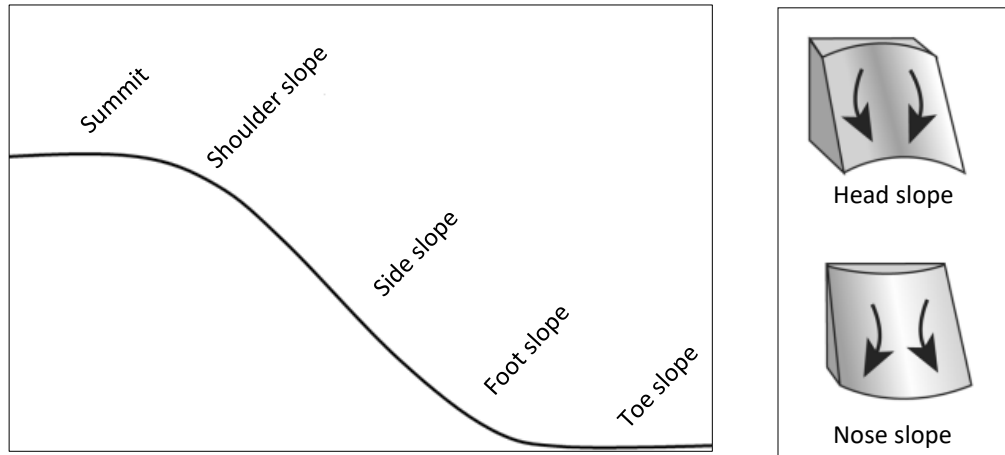

Figure 3-11. 1) Cross-sectional view of the different landscape positions. 2) Nose and head slopes.
- **Landscape Position.** The shape of a slope depends on its position on the landscape. Figure 3-11 shows the landscape positions that may be present at a surface irrigation site.